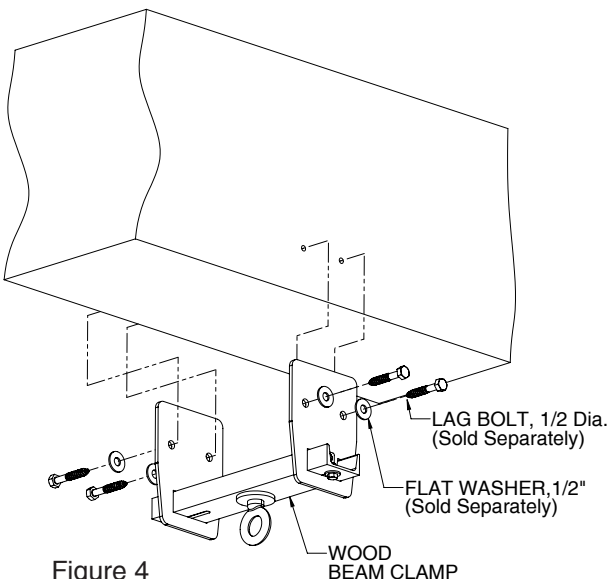

Figure 4
- Screw the lag bolts with washers from one side then repeat on the opposite side (Figure 4).